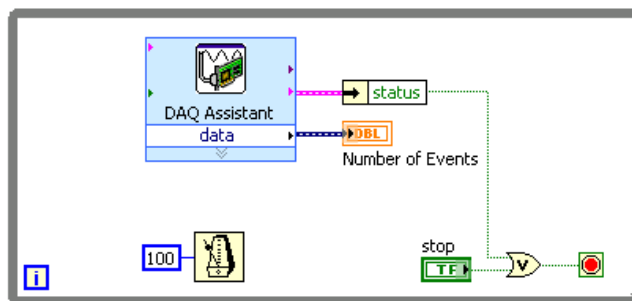

Figure 10.20
1. Build the block diagram shown in Figure 10.20.